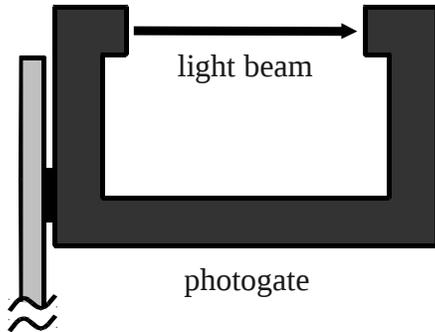

Figure 1.
**Photogates** record the passage of the swinging weight. The weight breaks the beam of light in the photogate, triggering the timers in the computer (Figure 1). All data will be